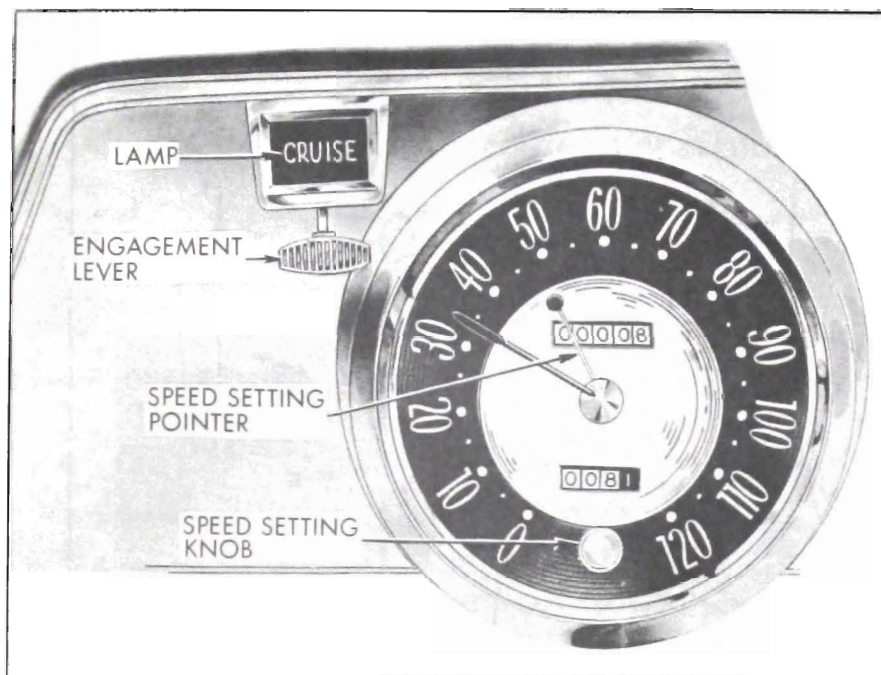

Figure 11-183—Electro-Cruise Controls
1. SPEED SETTING - The speed setting pointer moves over the existing speedometer scale and is set to the desired speed by rotating the speed setting knob at the bottom of the speedometer. See Figure 11-183. The desired speed can be set either with the system engaged or disengaged; however, car speed will only be controlled by the Electro-Cruise when the system is engaged. If the speed setting is changed while the system is engaged, car speed will increase or decrease automatically to coincide with the desired setting.
2. ENGAGEMENT - The engagement switch lever and CRUISE lamp assembly is located to the left of the speedometer and fully controls the engagement of the system. See Figure 11-183. To engage the system, it is necessary only to depress the engagement lever until the CRUISE lamp lights indicating the Electro-Cruise is in operation. If car is